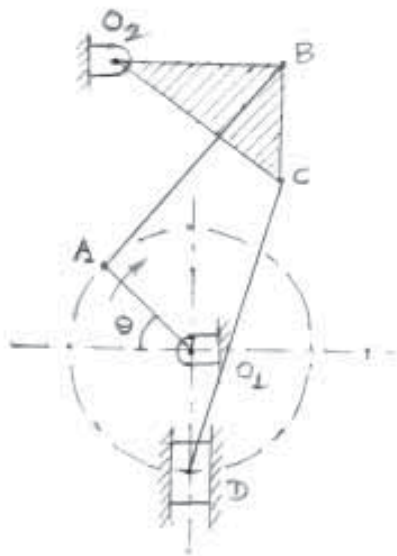

Fig.1 [For Q.3(b) and Q.4(b)]
- b) Fig.1 shows a sewing machine needle box mechanism O_1ABO_2CD , in which different dimensions are as follows :